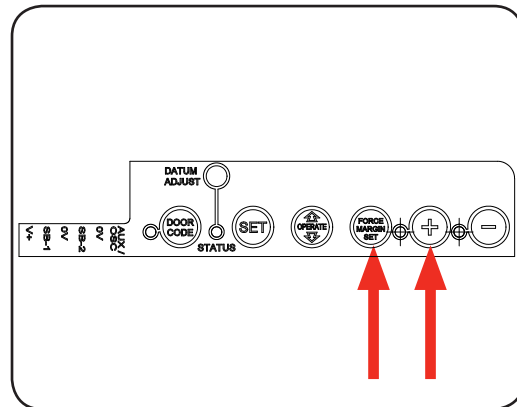

Fig.22
Step 12.3 - To Increase Force Pressure (Fig.22)